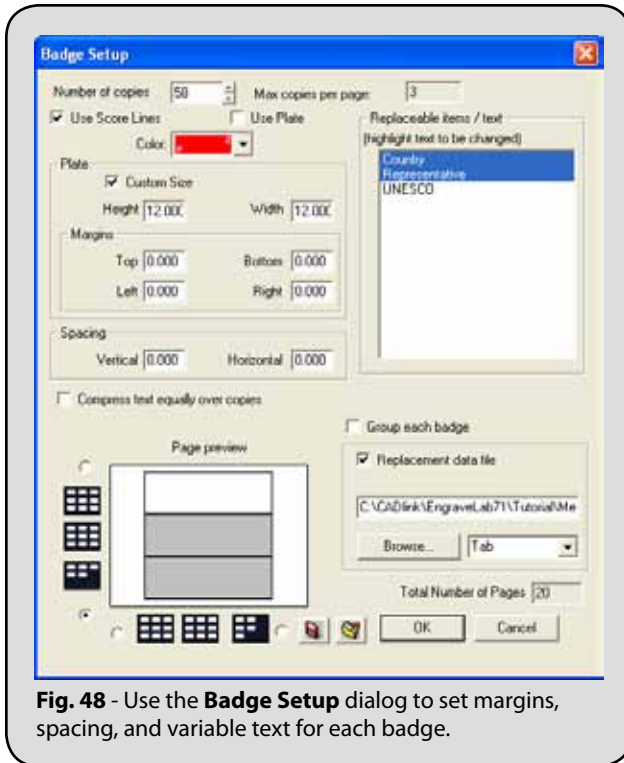

Fig. 48 - Use the **Badge Setup** dialog to set margins, spacing, and variable text for each badge.
2. From the **Layout** menu, choose the **Badges** item. The **Badge Setup** dialog will open (Fig. 48).